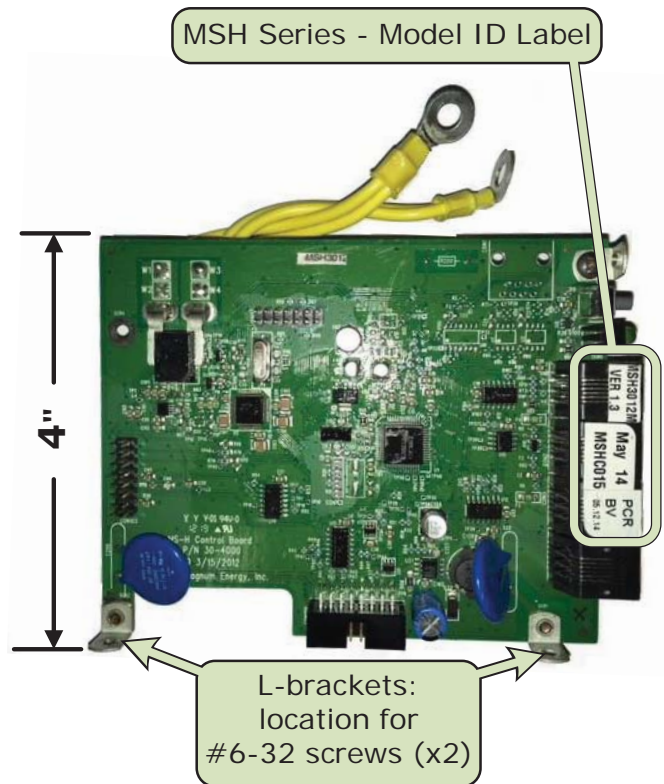
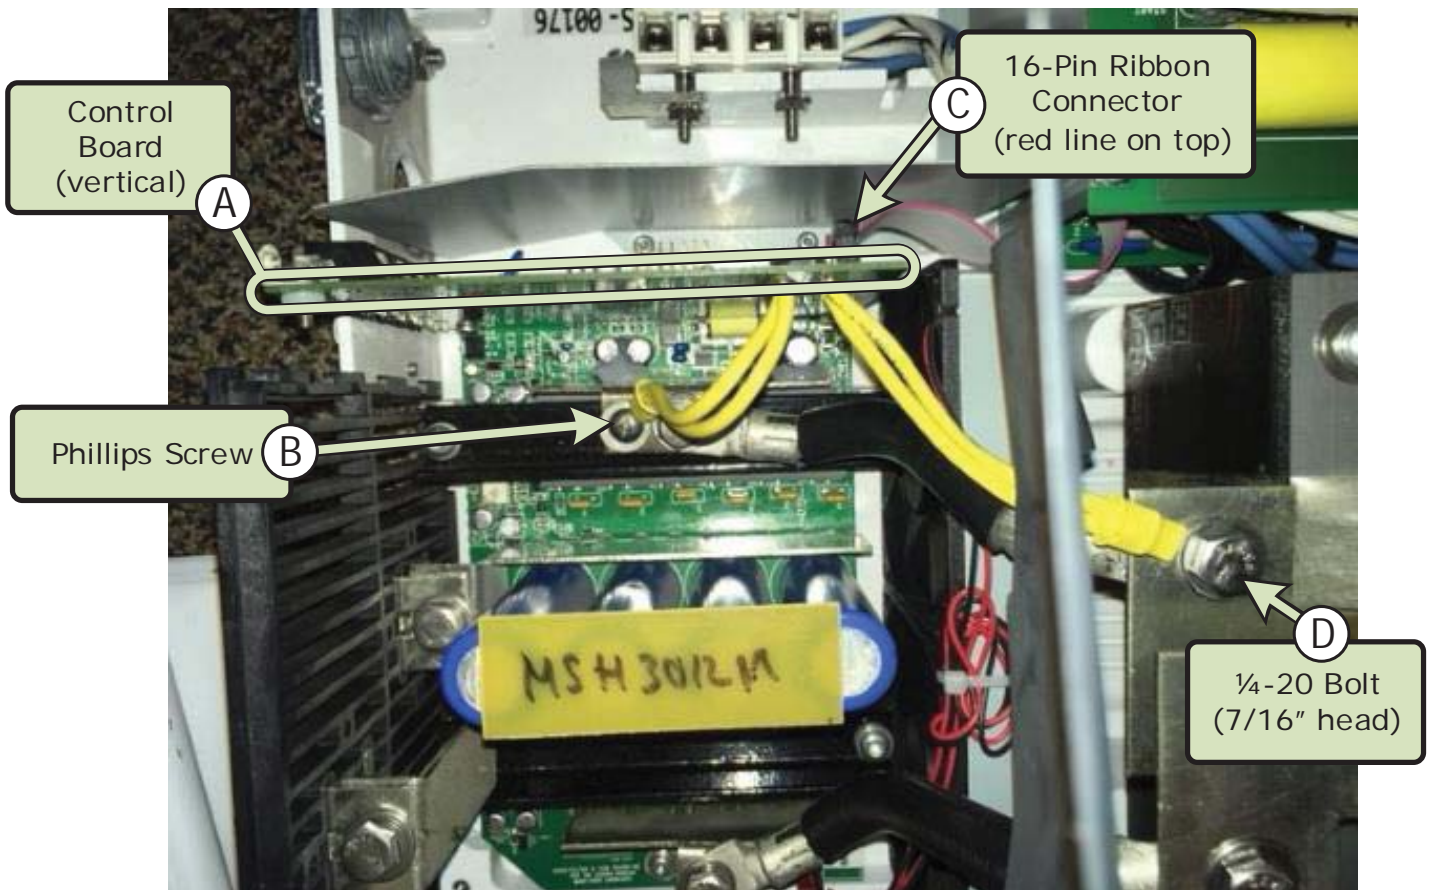

Figure 1, MSH Series Control Board
Figure 2, Top View of an MSH Control Board
Before dismantling the inverter, inspect the new control board to ensure there is no obvious physical damage. Look at the Model ID label on the new control board (see Figure 1) and verify that the model number on this label corresponds to the model number of the inverter that is being repaired. Contact Sensata Technologies if any item appears to be damaged, missing or incorrect.
2. Locate the MSH Series control board in the inverter (Figure 2, Item A), and then remove the two #6-32 screws securing it to the inverter base (Figure 1).
3. Remove the Phillips screw and the ¼-20 bolt (7/16" head) that connect the FET and transformer busbars to the MSH's control board, respectively (Figure 2, Items B & D).
5. Locate and disconnect the 16-pin ribbon connector. See Figure 2, Item C.
4. Reconnect the Phillips screw and the ¼-20 bolt (7/16" head) that connect the MSH's control board to the FET and transformer busbars, respectively (Figure 2, Items B & D).